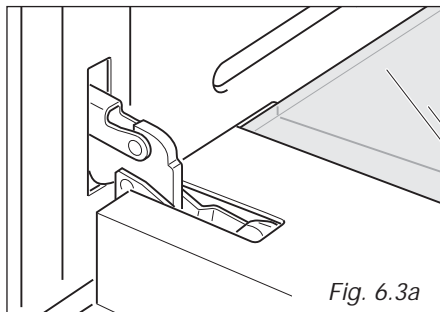

Fig. 6.3a
- Open the door to the full extent (fig. 6.3a).